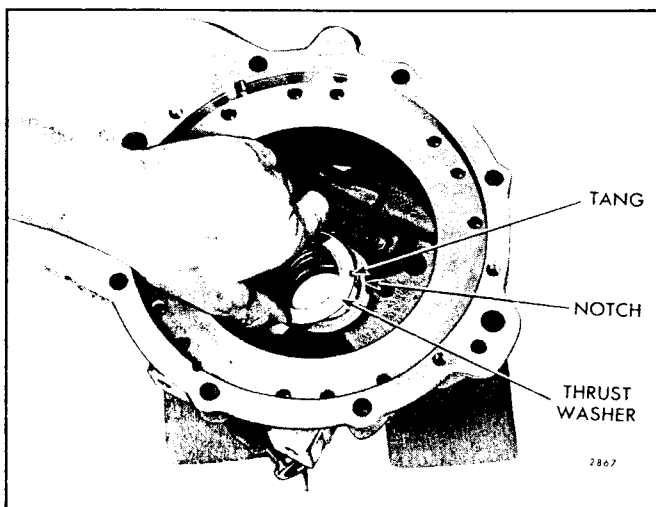

Fig. 50 - Installing Reduction Gear Input Shaft Thrust Washer in Gear Housing (1.5:1 and 2.1:1 Ratios)
- b. Lubricate the reduction gear input shaft thrust washer with engine oil; then, place the thrust washer down in the reverse gear housing with the tang on the edge of the washer in the notch inside of the gear housing as shown in Fig. 50.
NOTE: The thrust washer shown in Fig. 50 is not used on the direct drive, 2.5:1 and 3:1 ratio reverse and reduction gear units.